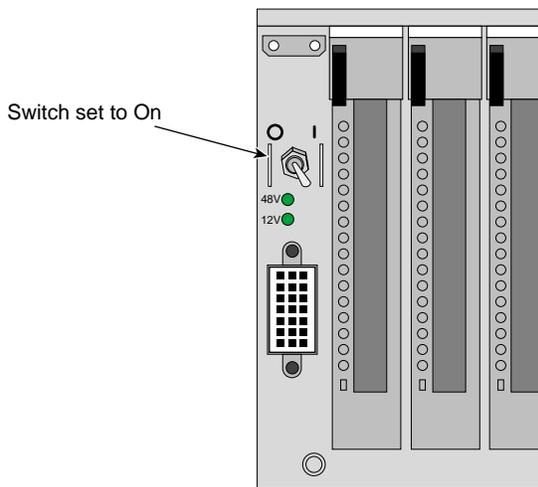

Figure 2-5 Assuring the Power Switch Is Set to 1 (On) for Each Brick
2. Make sure that the PWR (power) switch on each individual brick that you want to power on is set to the 1 (On) position, as shown in Figure 2-5 for the I-brick. This will start the L1 controller for the brick(s) when the brick(s) is powered on. The 12 VDC LED on the individual brick lights green when the powering on of the L1 controller has occurred successfully. If a power switch in one of the bricks you want to power on is set to Off, contact your SGI system support engineer (SSE) so that he or she can set the switch to the On position.